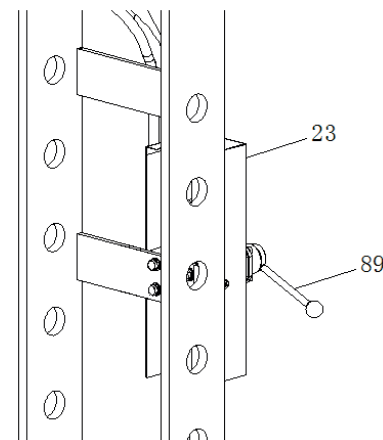

fig.9
### 8.4.5 Take out the handle for selector (89) and assembling it to the selector(23)(Refer to Fig.9)